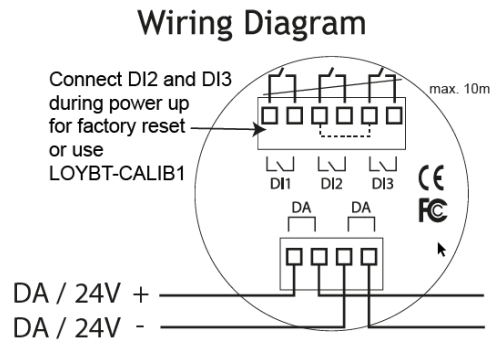

Figure 10: Wiring diagram and info about factory reset.
- Connect the inputs DI2 and DI3 as shown in Figure 10 and power-up the device